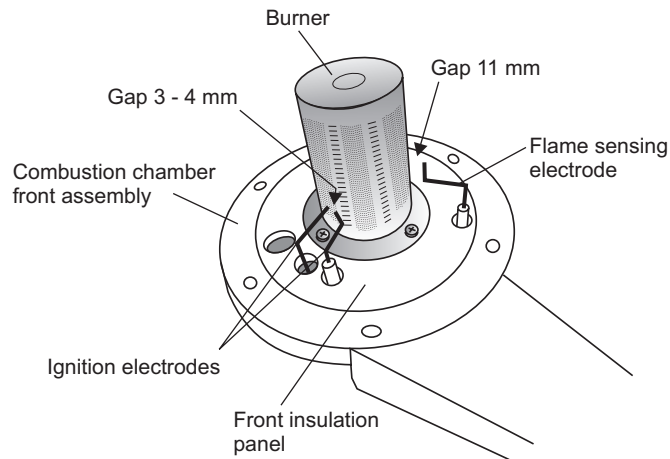

Fig. 7.2
6. Remove the four screws securing the burner (see Fig. 7.2) and remove the burner. Clean the burner with a soft brush and check that the flame ports are clear. Blockages may be removed with a stiffer brush. Tap the burner, open end down, to remove any deposits from inside.
9. Check the spark gap, positioning and height of the electrodes. See Fig. 7.2.
8.3 ELECTRODES - See Fig. 7.2
8.4 MAIN BURNER - Fig. 7.2